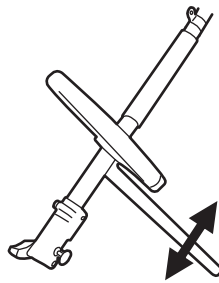

Fig. 2
1. Loosen the bolts on the auxiliary handle (A15) and adjust the position. (See Fig. 2)